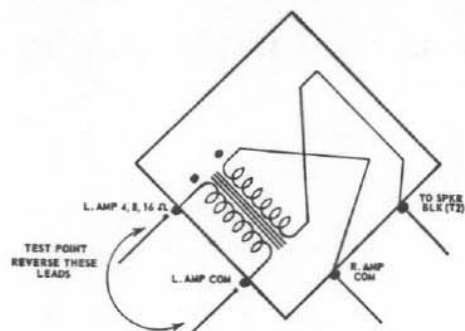

Figure 4
- Reverse leads 1 and 2. (Fig. 4 Example Shown) and connect in position giving maximum volume in center channel.